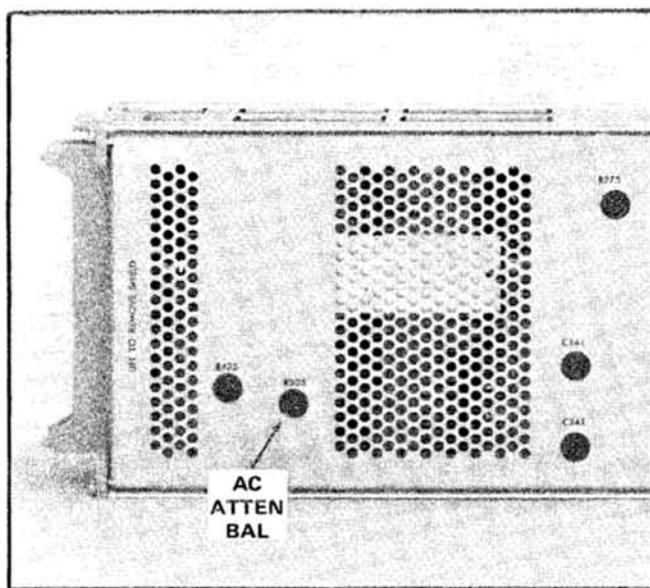

Fig. 2-2. Location of AC ATTEN BAL control.
1. AC ATTEN BAL (internal adjustment). When the LOW FREQ —3 dB POINT switch is used to limit the low frequency response of the Type 7A22, the unit employs AC stabilization. This means that when the switch is set to any position except DC or DC OFFSET, the STEP ATTEN DC BAL and DC OFFSET controls become inoperative. VOLTS/DIV balance is then controlled with the AC ATTEN BAL, an internal adjustment (see Fig. 2-2).
- Adjust R425 for no movement of trace as the VARIABLE control is rotated from stop to stop. (See Fig. 2-2 for location of adjustment.)